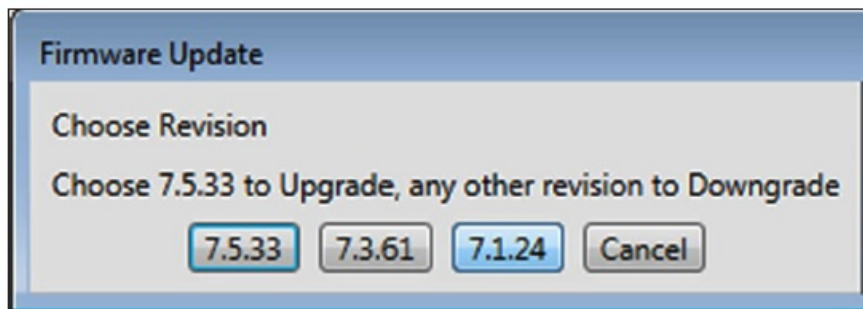

Figure 32. The Firmware Update Choose Revision dialog box for selecting the firmware version.
- **STEP 14.** When the Firmware Update Choose Revision dialog box appears, select the desired firmware version. See Figure 32.